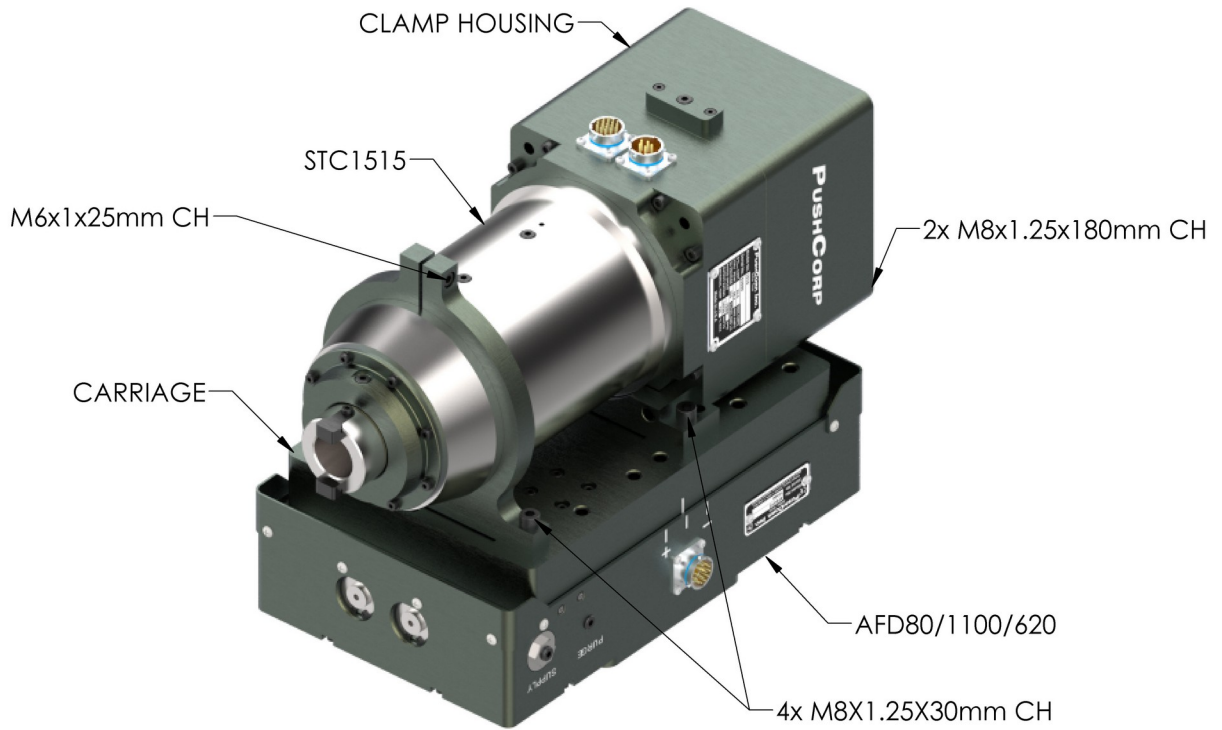

Figure 1: STC1515 Parallel-Axis Configuration
For the Parallel-Axis configuration, shown in Figure 1, the 1515 attaches to the AFD Carriage with two brackets and four (4), M8x1.25x25mm, Socket Head Cap Screws. The 1515 is positioned on the Carriage with the Foot Bracket while the Front Bracket is attached to the forward mounting holes. The Clamping Screw on the Front Bracket should be loose to allow sliding movement along the motor. Attach the Foot Bracket to the Clamping Housing (Mounting Plate for the SM0612) using two (2), M8x1.25 Socket Head Cap Screws. When the desired position is achieved secure the brackets to the Carriage, and tighten the Clamping Screw. The M8x1.25, Socket Head Cap Screws, must be the proper length and tightened to the torque specified in Section 4.0.